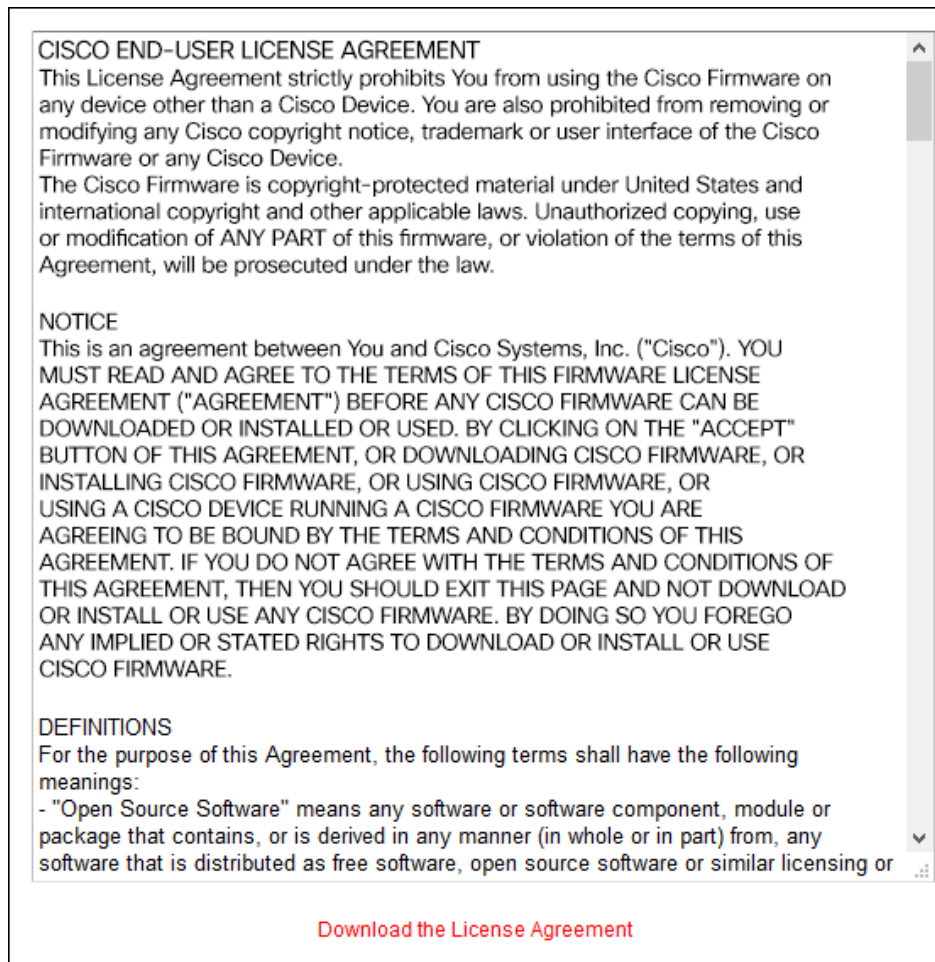

Figure 67. Configurator GUI (End-user license agreement)
- The license agreement dialog will be shown (Figure 67 (page 156)).